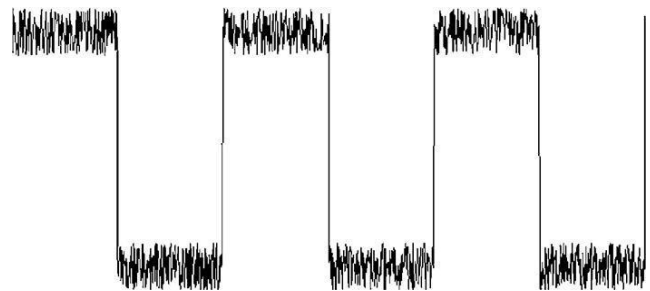

FIGURE 28.12 A high level of noise does not prevent the pulses from being readable.
- Digital signals are highly immune from noise. The signal shown in Figure 28.12 is noisy but there is no problem in recognising it as a pulsed signal.